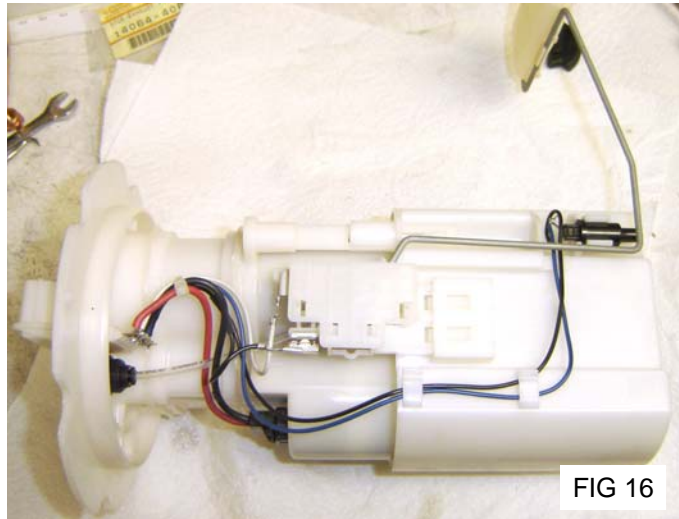

FIG 16
11. Reassemble the pump / sending unit assembly. **FIGURE 16**